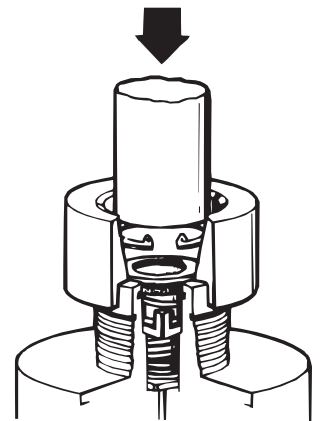

Figure 6
13. Place the special high-pressure block guide (P/N 111000), recessed end downward, over the tip of the inlet boss of the first-stage body. Next, drop a new sintered filter (Item 9) with rough side facing upward into the spring block guide. Place a new washer (Item 8) over the filter. Next, place a new retaining ring (Item 7), flat side upward, on top of the washer and the sintered filter. (See Figure 6).